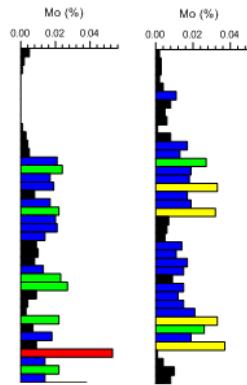

Figure 1.234 – The log changed from the original DH-1 (left) to DH-2 (right).
- When you change the Hole ID Filter in the Property Manager the log changes from the original DH-1 data (left) to DH-2 data (right), fig. 1.234.